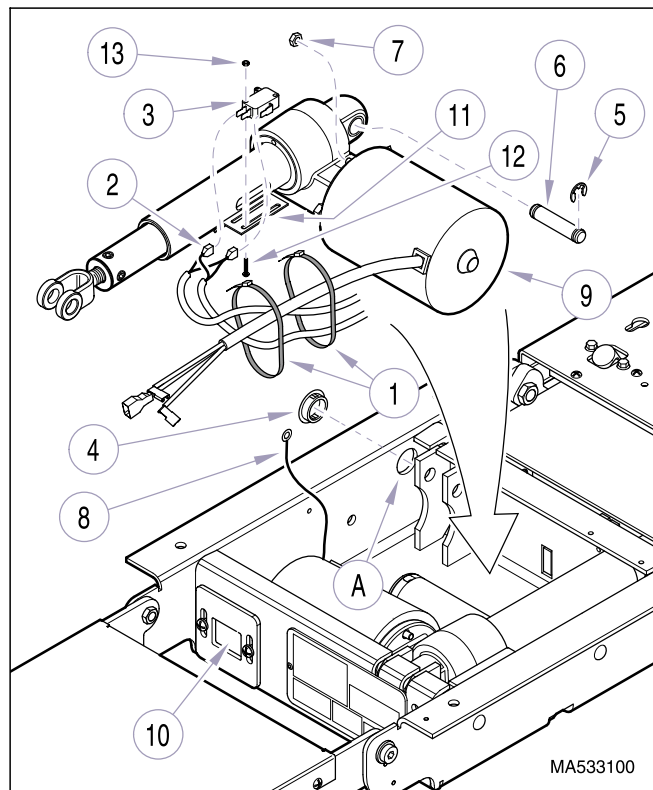

Figure 4-45. Foot Actuator Limit Switch Removal / Installation
- (4) Unplug table power cord from wall outlet.
- (5) Remove four knobs (4) and seat upholstery (5).
- (6) Remove two screws (6) and electrical cover (7).
- (7) Cut two wire ties (1, Figure 4-45); then tag and disconnect two wires (2) from terminals of limit switch (3).
- (8) Remove hole plug (4) and two klip-rings (5);
- (9) Using a hammer and punch, drive clevis pin (6) out thru hole (A).
- (10) Remove nut (7) securing ground wire (8) to foot actuator (9).
- (9) Install clevis pin (2) thru foot actuator (3) and foot section weldment (8); then secure clevis pin with two klip-rings (1).
- (10) Check for proper operation. (Refer to steps 4 thru 7 of Operational Test, para 2.1). Reposition limit switch (3, Figure 4-45) on limit switch bracket (11) if necessary.